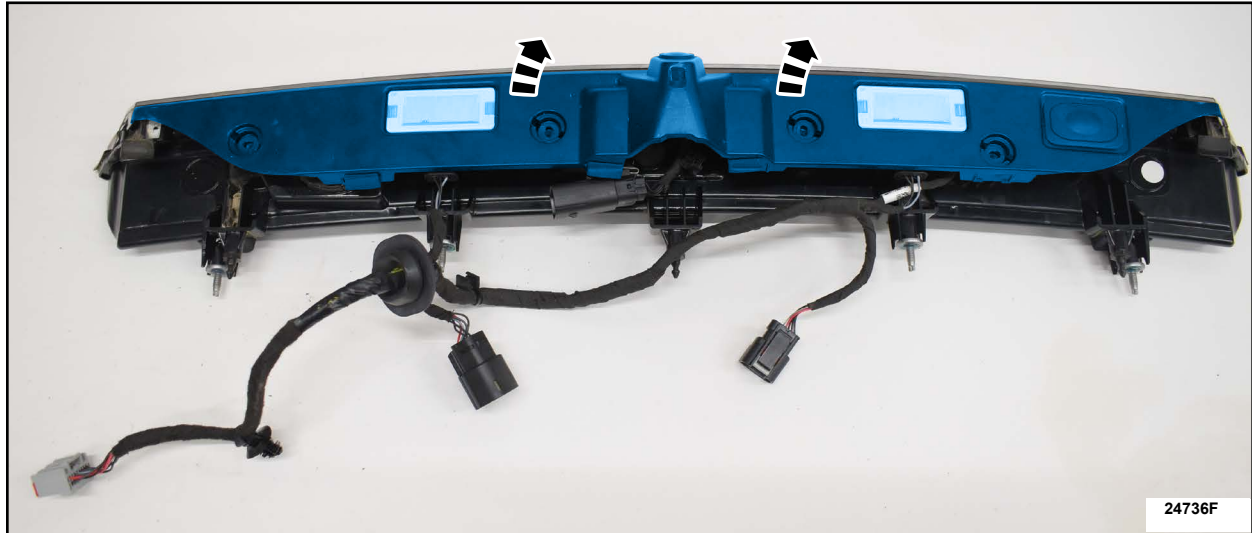

FIGURE 6
7. Separate the two halves of the liftgate moulding. See Figure 6.